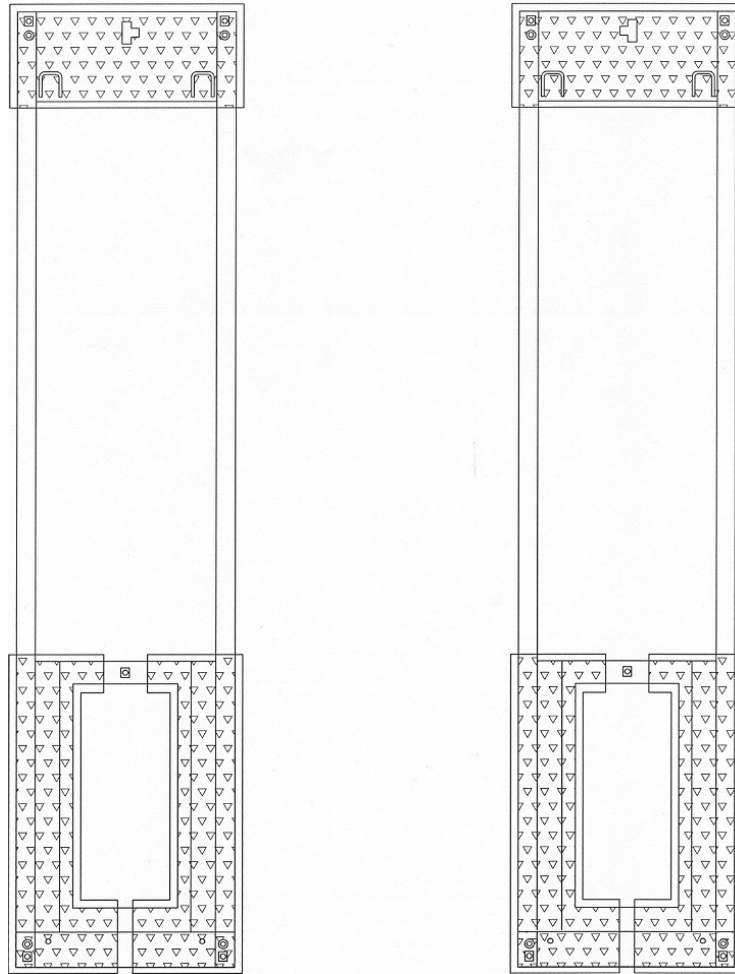

Figure 12 – Grouting Locations
1. Pour grouting under the load area of each base frame as shown in **Figure 12**. Ensure that grout is evenly distributed under the frame and finish the edges with a 45 degree chamfer. Refer to specific grouting instructions on the package. Leave a drain area to allow any liquids to escape.